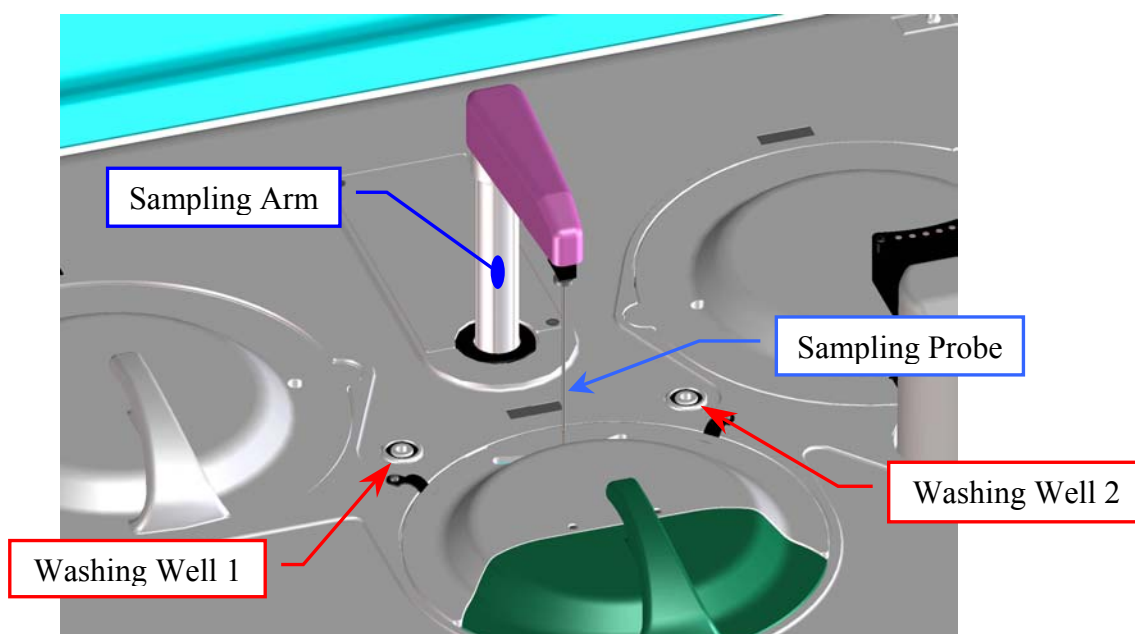
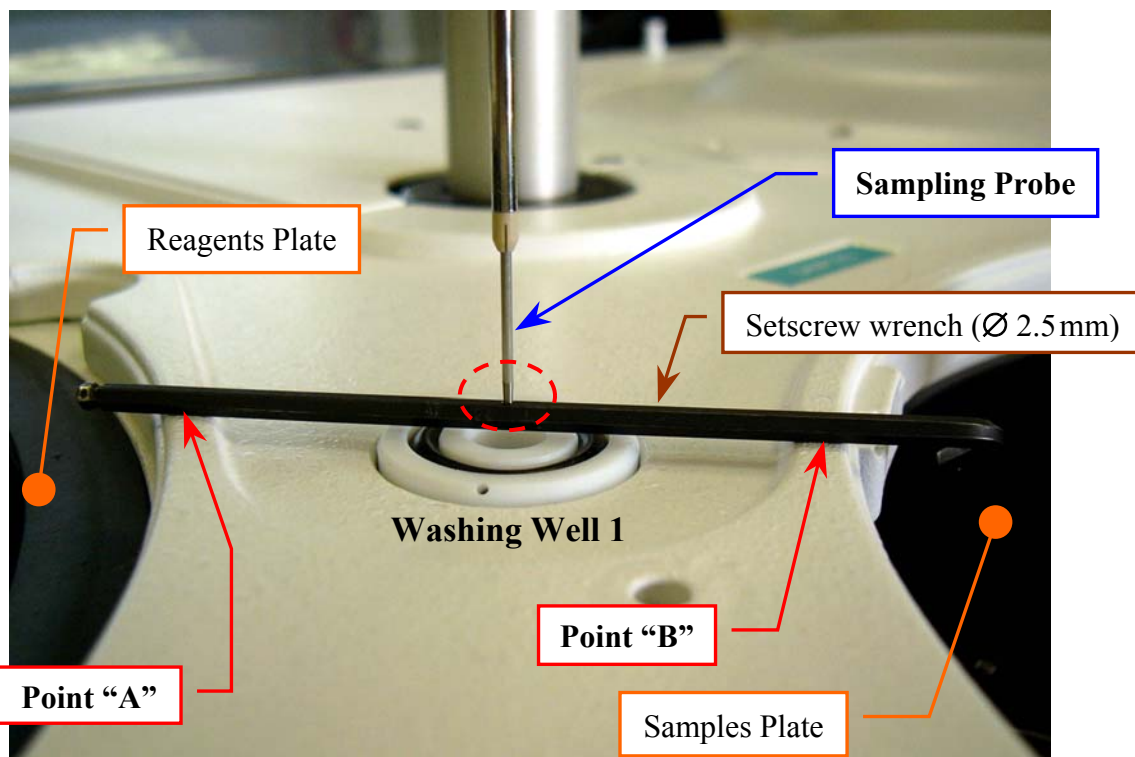

Fig. 1 – Sampling Arm and Washing Well 1
Fig. 4 – Vertical adjustment of the Sampling Probe
4. Make sure that the Sampling Probe is vertically aligned (like show in the **Fig. 4**) and centered with respect to the Washing Well 1 (well places between Reagents Plate and Samples Plate indicated in the **Fig. 1**). If it not be so, adjust in the following way:
- s. position a setscrew wrench with diameter equal to 2.5 mm between the point "A" (on mezzanine edge of the Reagents Plate) and the point "B" (on mezzanine edge of the Samples Plate) and with its midpoint centered with respect to the center of the Washing Well 1 (**Fig. 4**).
- t. make sure that the tip of the Sampling Probe touch strictly the upper side of the setscrew wrench (like show in the **Fig. 4**). If it not be so, adjust in the following way: